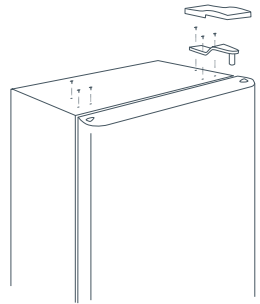

Fig.2 Hinge removal
- Remove the top hinge bracket screws using a 'Philips' screwdriver and remove the top hinge bracket, ensuring that the door is held firmly. (Refer Fig.2).